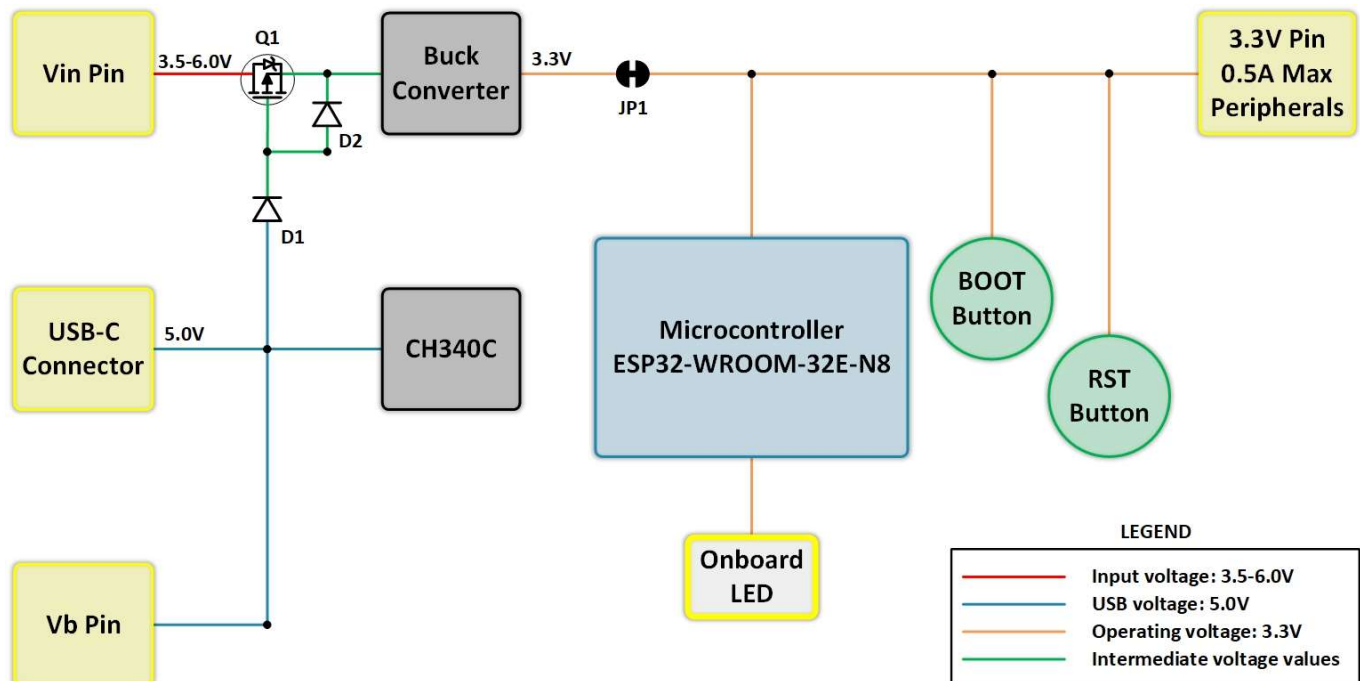

Figure 5: ESP32 microWatt Power Tree.
The power tree of the *ESP32 microWatt* is shown in Figure 5. The following are special points to note when considering the power management.
1. The P-MOSFET labelled Q1 in Figure 5 is connected in the “drain-source” configuration. The main advantage of this configuration is that Vin gains reverse-polarity protection (up to the breakdown voltage of the inherent diode within the P-MOSFET, see corresponding ratings in Table 3). A secondary advantage is that while the P-MOSFET is open the voltage drop across the drain to source is very small.